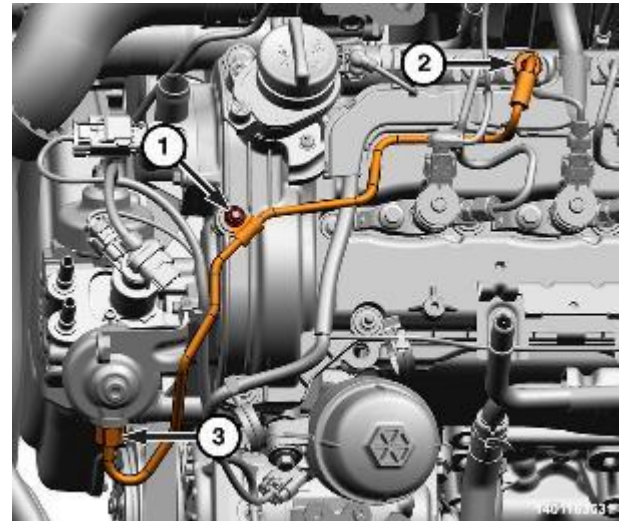

Figure 122 – Left High Pressure Fuel Tube Nut
54. Remove the left fuel tube bracket nut (1) securing the fuel tube (Figure 122).
55. Unscrew the union nut (2) from the fuel rail and remove and discard the fuel tube (Figure 122).